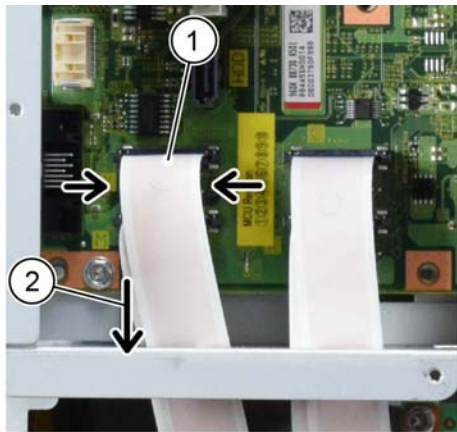

Figure 5 FFC cables
6. Disconnect the four FFC cables, Figure 5: